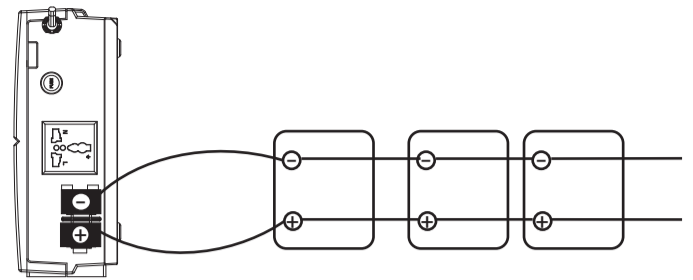

Fig. 3
3)Multiple batteries in parallel connection (Refer to Fig. 3):